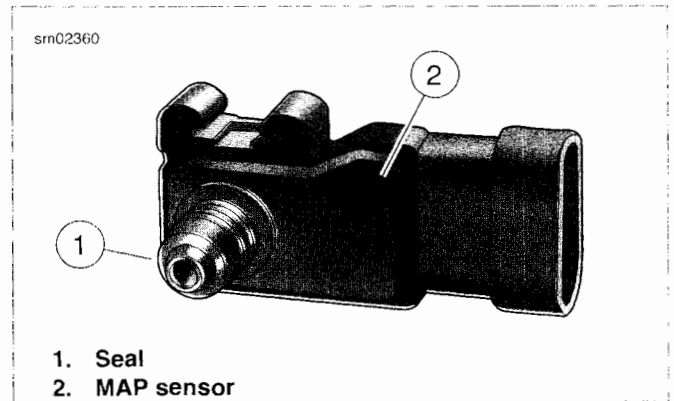

Figure 4-27. MAP Sensor
See Figure 4-27. If the original sensor is re-installed, the seal (1) must be inspected. Seals not in good condition could cause vacuum leaks. Install **new** seal if necessary.